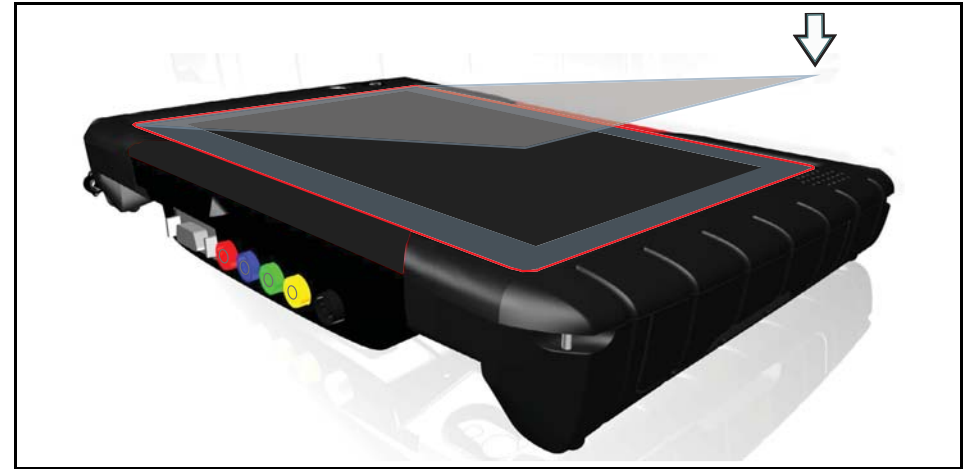

Figure 17-4
3. Carefully align the edge of the protector with the edge of the screen, and slowly allow the screen protector to lie flat on the screen (Figure 17-4).